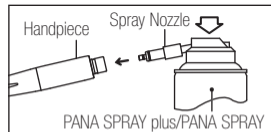

Fig. 8
- 1) Mount the Spray Nozzle into the Spray Port.(Fig.8)
- 5) Align the Alignment Pin and insert Cartridge. (Fig. 8)